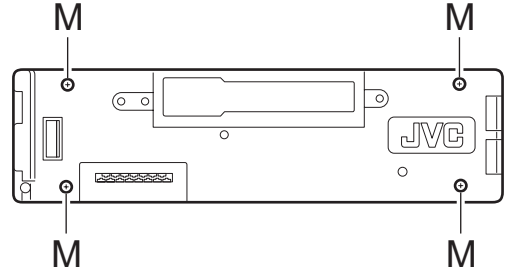

Fig.11
**(See Fig.11~13)**
- (1) Remove the four screws **M** attaching the rear cover on the back of the front panel assembly.
- (2) Release the eleven joints **h**, the front panel and the rear cover become separate.
- (3) Remove the switch board from the rear cover.